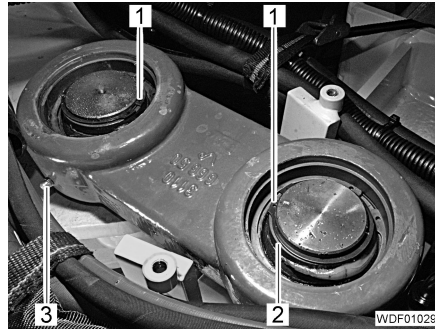

Fig. 345 Retaining mount of the self-aligning bearing
- If necessary, fit shim washers (Fig. 345,2) onto the pins.
- Insert 1 locking ring (Fig. 345,1) for each.
- Screw the grease nipple (Fig. 345,3) into the self-aligning bearing.